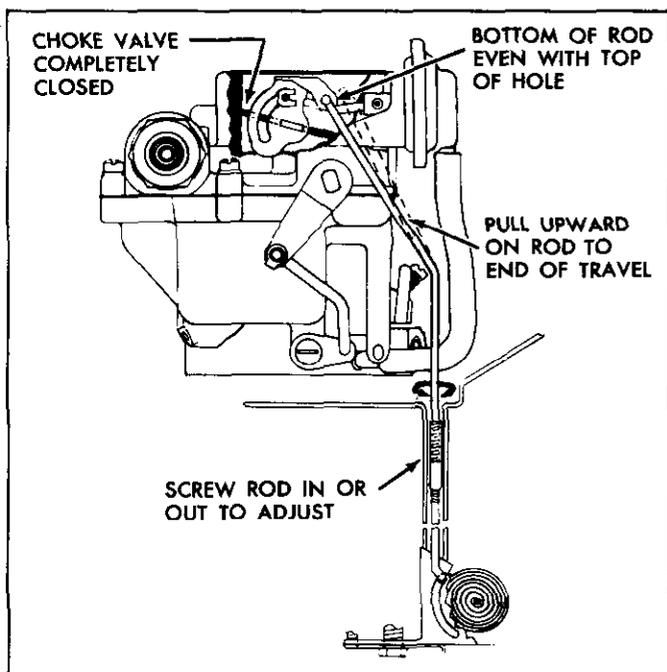

Fig. 3—Adjusting Choke
3. Hold choke valves closed and actuate accelerator cross-shaft (to set fast idle cams). Pull choke rod upward to end of travel and adjust rod until bottom of rod is even with top of hole in choke lever (fig. 3). Connect choke rod and repeat operation on remaining choke.